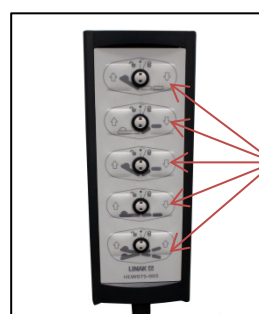

Figure 9: Test each function on the handset
13. Careful place the bed back onto its wheels and unpack handset and test functions (figure 9), by default the Trendelenburg function is locked out.